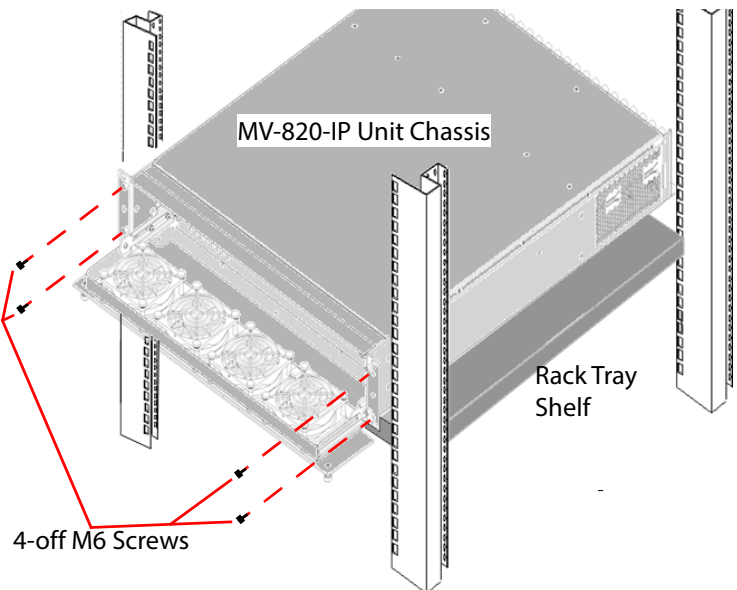
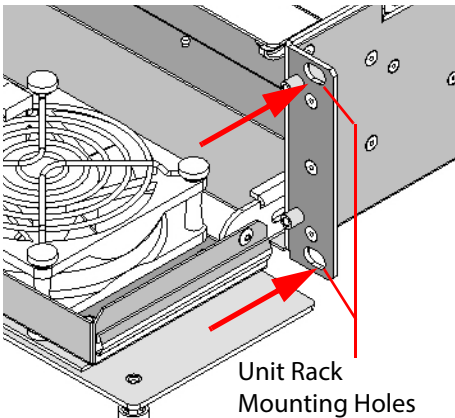

Figure 3 Rack-Mounting MV-820-IP Unit
Figure 4 MV-820-IP Unit Rack Mounting Holes
4. Secure the MV-820-IP Multiviewer chassis in the rack at each mounting hole; use 4-off M6 screws. See **Figure 3** and **Figure 4**.